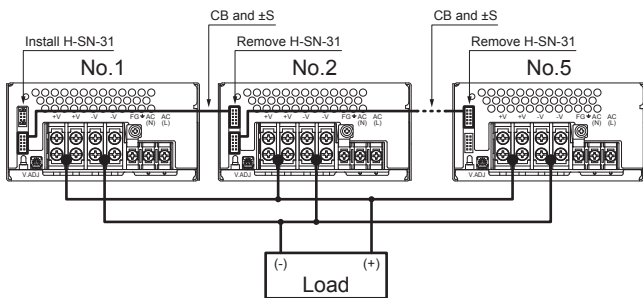

Fig.5.9 Parallel operation condition
- ① (Before wiring) set the output voltage of each unit to the desired value. The output voltage difference between the units must be less than 0.1V or 1% of the rated output voltage, whichever is smaller.
- ② Wire the power supplies as shown in Fig. 5.9. Make sure the output wires of the units connected in parallel are of the same length and the same type.
- ③ Make sure the total output current does not exceed the value determined by the following formula: